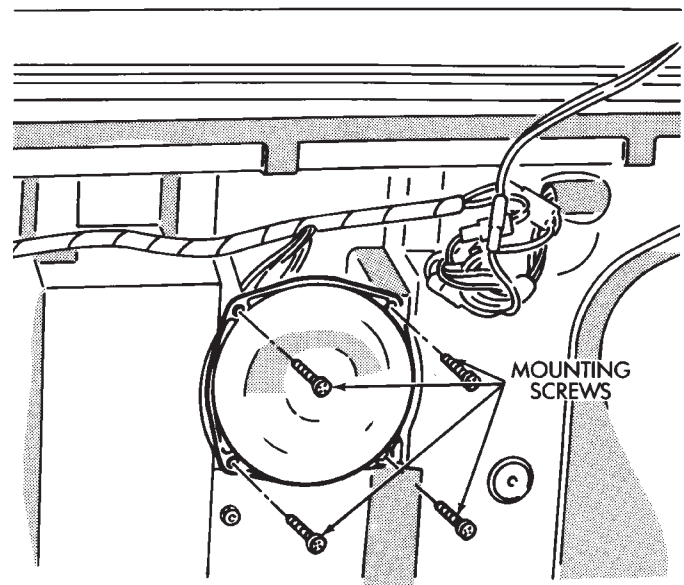

Fig. 12 Liftgate Speaker
(3) Remove speaker attaching screws (Fig. 12).
(4) Disconnect speaker at wiring harness and remove speaker.